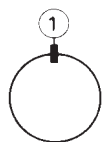
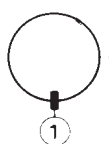

Fig. 4a
Fig. 5a
Dynamic convergence is obtained by moving the deflection coil horizontally and vertically. In order to ensure the exact position of the deflection yoke, three rubber wedges are placed between the glass of the tube bulb and the deflection coil as shown in Fig. 4a or 5d.
3. Eliminate the central, horizontal and vertical blue and red lines by moving the deflection coil vertically. If the position of the deflection coil is correct, place the rubber wedge (1) either straight up (Fig. 4a) or straight down (Fig. 5a).
The placement of the wedge as in Fig. 4a is correct if the deflection coil is facing down.